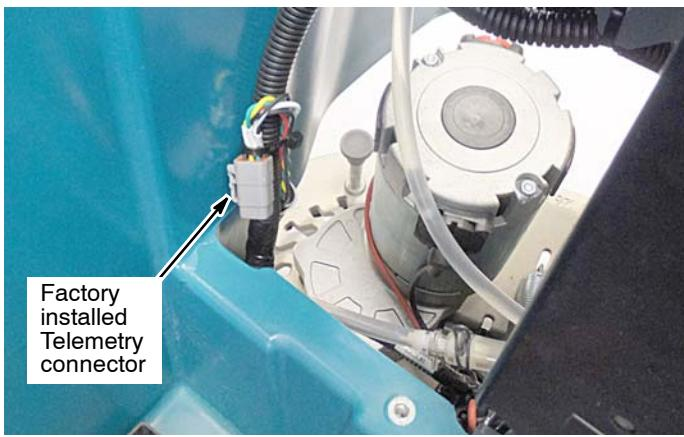

Fig. 13
9. Locate the factory installed telemetry connector as shown (Figure 13). Carefully cut the cable-tie that is securing the connector to the machine harness.